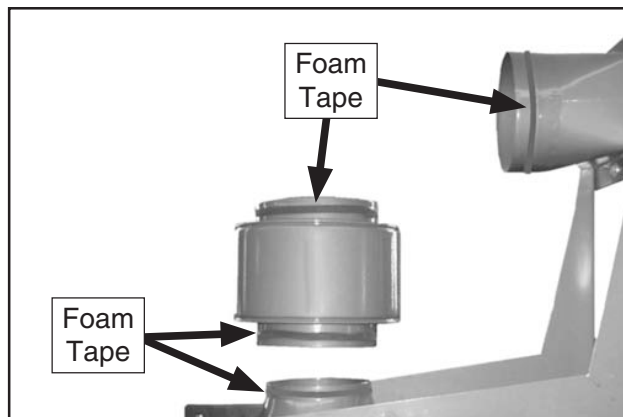

Figure 28. Foam tape applied to upper components (Model G0441).
- a. Apply the 3 x 15mm foam tape to the lips of the outlet port, canister adapter, and both ends of the muffler, as shown in **Figure 28**.